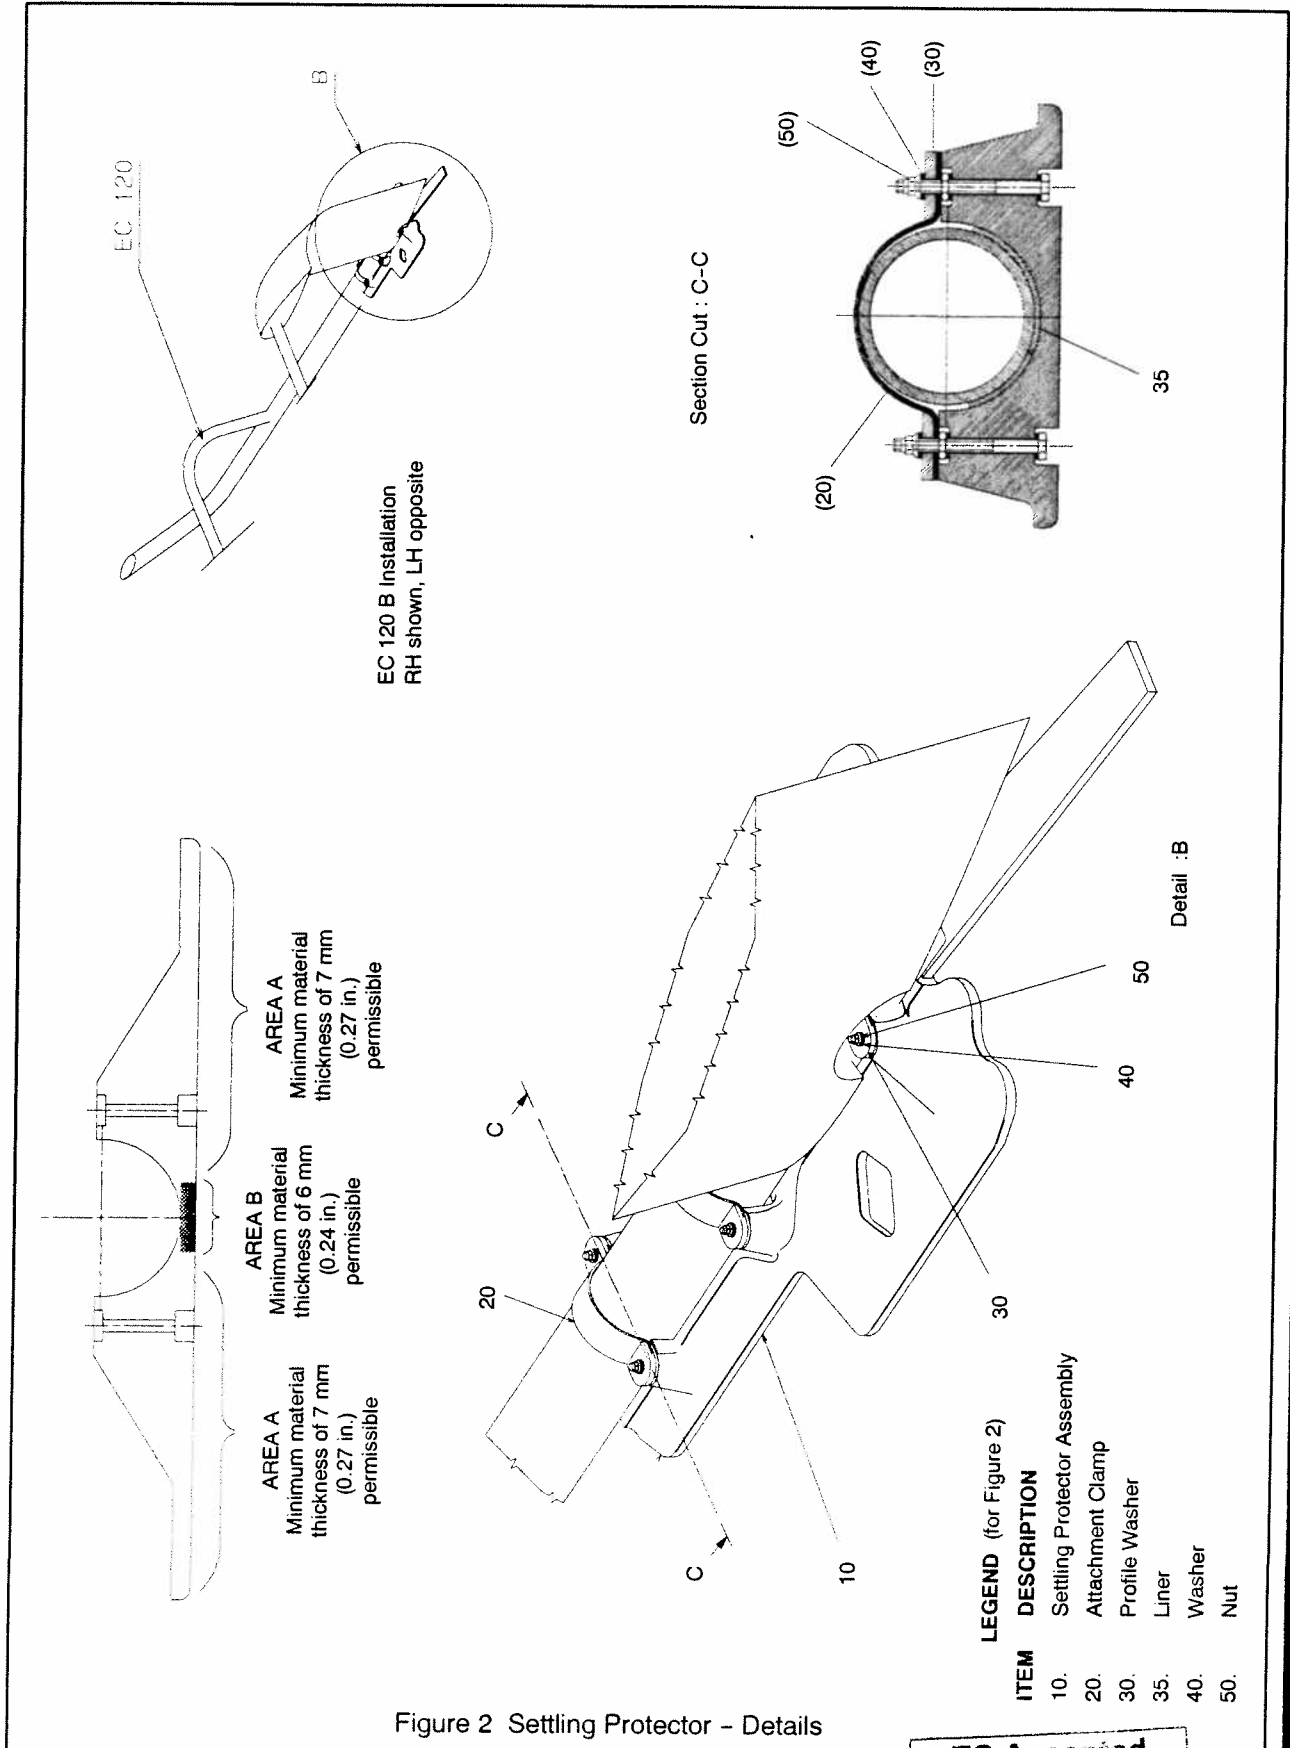

Figure 2 Settling Protector - Details
Refer to Figure 2 for component removal and replacement.
- b) Remove nuts (50, Figure 2), washer (40), profile washer (30), and attachment clamps (20) and slide settling protectors (10) out in aft direction.
- b) With one side of the helicopter raised, slide pre-assembled settling protector under the skid, and position in accordance with Figure 2. Ensure that the liner (35) is installed and seated correctly.
- d) Install three clamps (20) and align the settling protector in accordance with Figure 2.
- e) Secure all clamps using profile washer (30), washer (40), nut (50), and hand tighten.